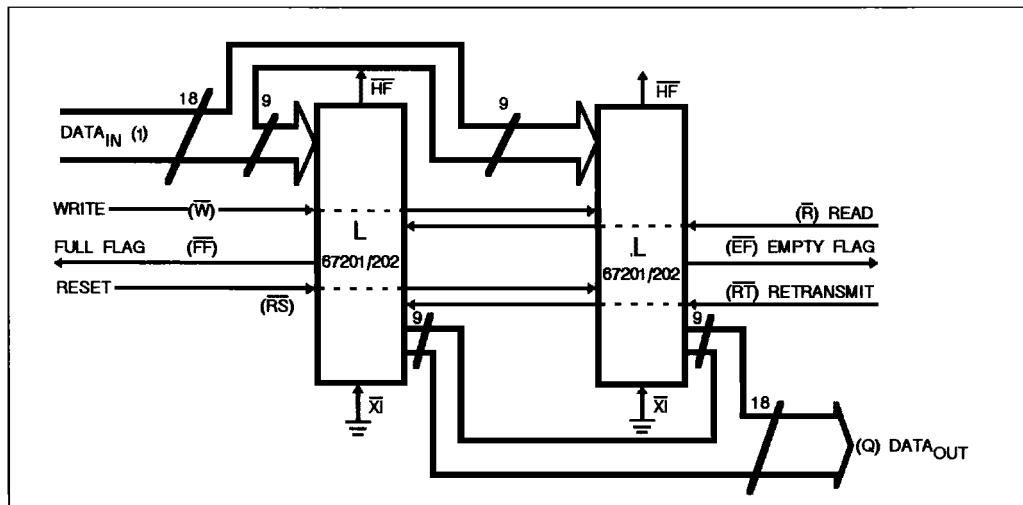

Figure 3 : Block Diagram of 512 / 1024 x 18 FIFO Memory Used In Width Expansion Mode.
one device. Figure 3 demonstrates an 18-bit word width by using two L 67201/202. Any word width can be attained by adding additional L 67201/202.
- 7. For Flag detection see section on Width Expansion and Figure 3.